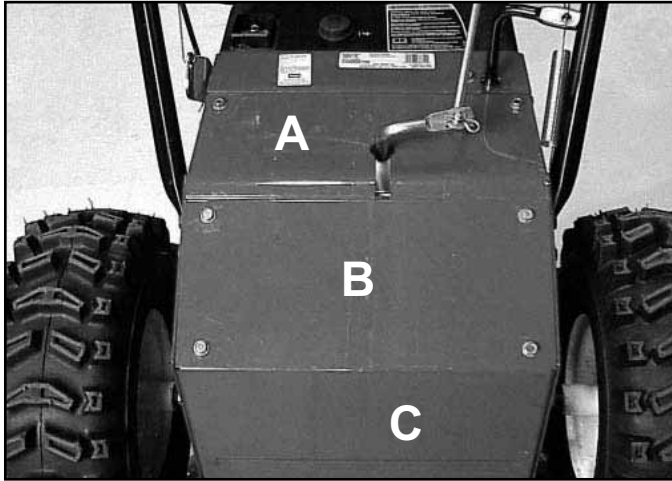

Fig 100
2. Remove the upper and lower covers and bottom pan (Fig. 100).